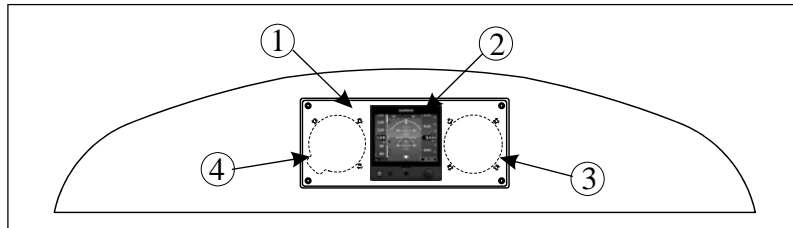

Figure 6 Front Instrument Panel with Garmin G5
As an option the front instrument panel (1, Figure 6) can be equipped with a Garmin G5 electronic flight instrument (2) and further instruments (3 & 4).